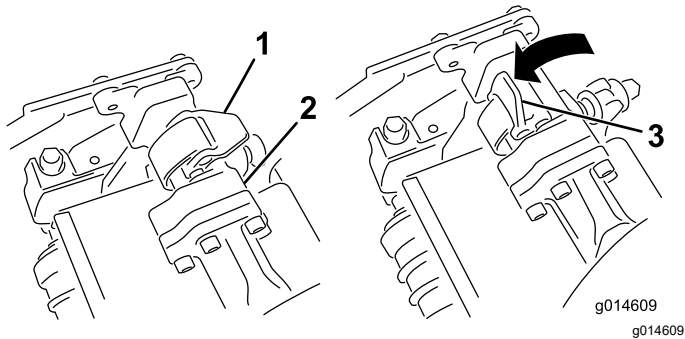
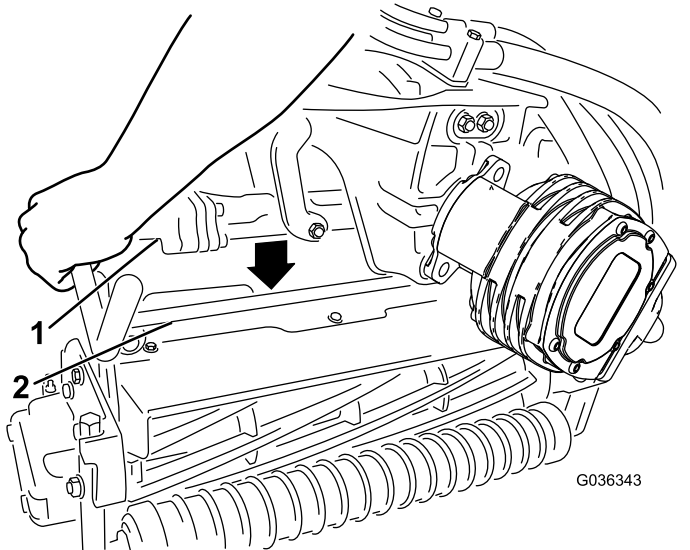

Figure 58
Figure 59
4. With the latches on the suspension-arm bar pointing up (i.e., open) (Figure 58), push the suspension arm down so that the bar fits over the bar across the top of the cutting unit (Figure 59).
5. Close the latches down and around the cutting-unit bar and lock them in place (Figure 58).
5. Open the latches on the suspension-arm bar of the cutting unit you are removing (Figure 58).